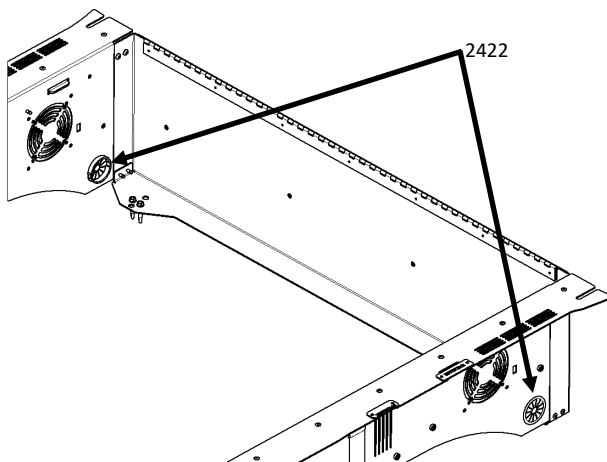

Figure 6a
1. Locate the Electronics Floor Assembly [4STF5725107], (8) [3X283] 1/4-20x1 Button Head Socket Cap Screws, and (4) [2422] 2" Grommets.
2. Prior to floor installation, install a grommet in the Driver and Passenger Side Panel Assemblies in the location shown in Figure 6a.